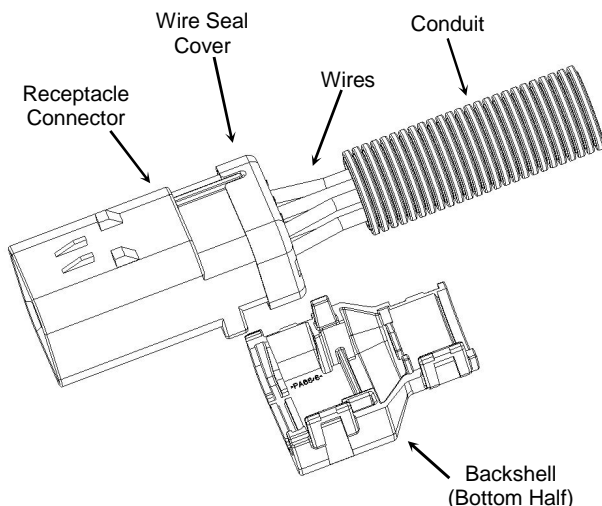

Figure 10
4. Align the plug or receptacle connector and the bottom half of the backshell as shown in Figure 10.